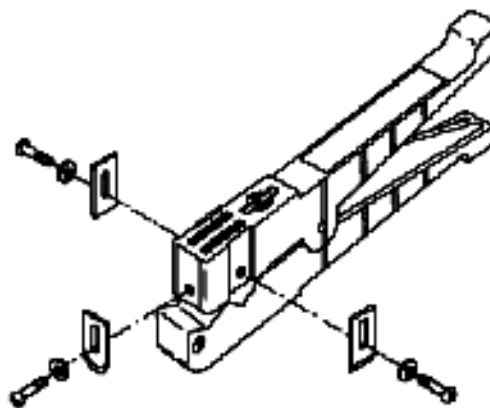

Figure 11. Coaxial Cable Strippers
16. **Coaxial Cable Hand Stripper Tool.** Coaxial cable strippers are unique in that they have two blades located on each side of the tool and a round blade attached to the front (see Figure 11). Circular stripping blades are located on each side of the tool. These may be adjusted individually for the type of strip desired. By flipping one or both of these blades the stripping dimension can be varied. Wider dimensions can be obtained by spacing with blades. The depth of the cut is also adjustable. An axial stripping blade is the round blade attached to the front of the stripper, and is used to slit the cable axially. There are four types of coaxial cable strippers. Table 6 lists the part number, cable outer diameter size, and the stripping dimensions.
26. **Coaxial Cable Strippers.** Coaxial cable strippers are unique in that they have two blades located on each side of the tool, and a round blade attached to the front (Figure 11).